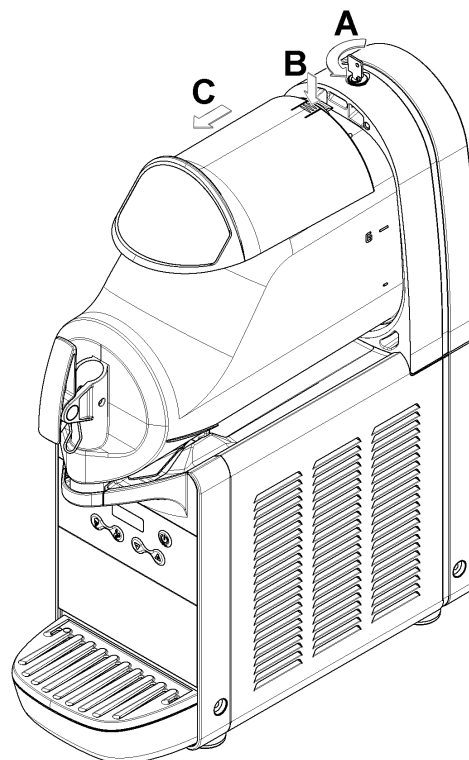

figure 2
To remove the lid of the container, press the top key and slide the lid towards the front of the container. If there is a safety lock for the lid, turn the key in an anti-clockwise direction to release the open key (see figure 2).
- 1 To remove the lid of the container, press the top button and slide the lid towards the front of the container. If there is a safety lock for the lid, turn the key in an anti-clockwise direction to release the open button (see figure 2).